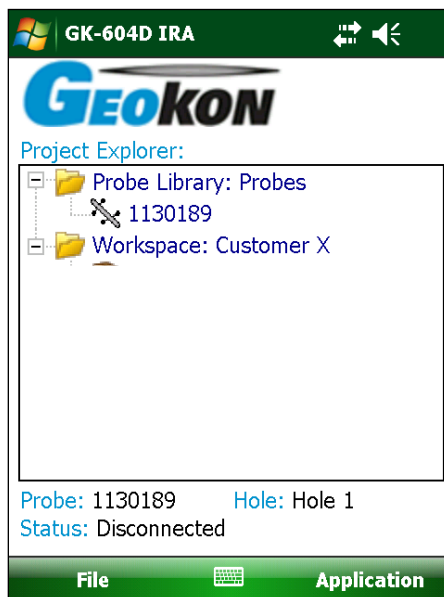

Figure 10 - User Interface
- 2) The Main Window shown in Figure 10 will be displayed. (If prompted to create a workspace name, refer to Appendix C.1)